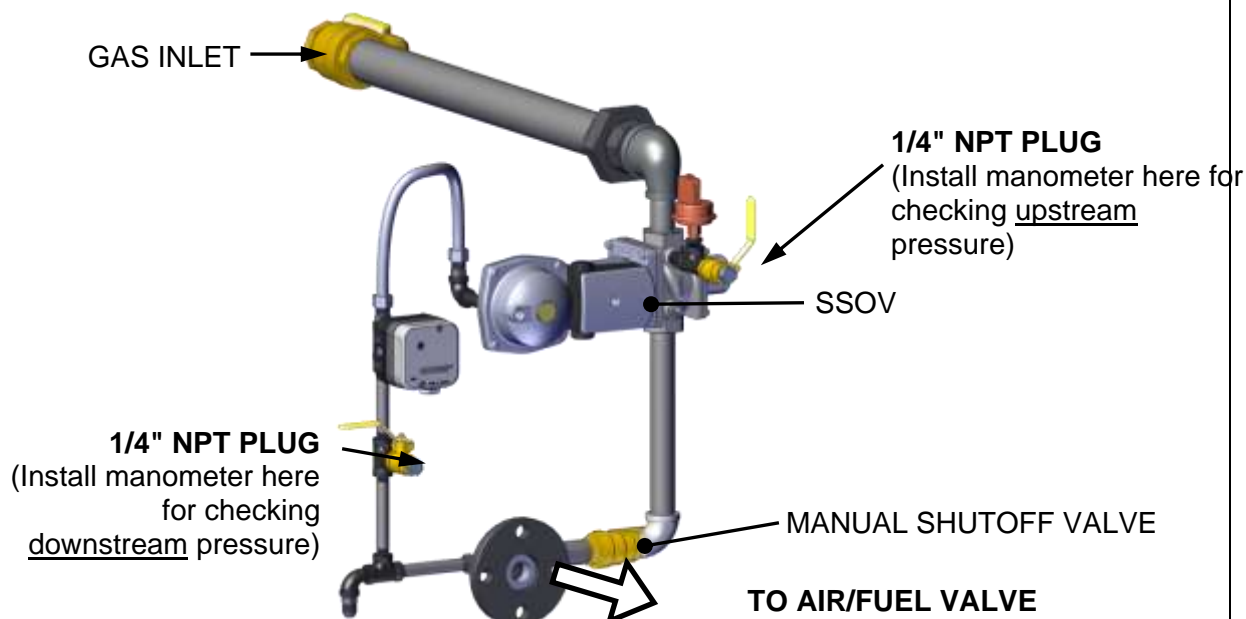

Figure 4.2.2: 1/4 Inch Gas Plug Location (INN 600N – INN 1060N Gas Train Shown)
3. Remove the 1/4-inch NPT pipe plug from the leak detection ball valve on the upstream side of the Safety Shut Off Valve (SSOV) (see Figure 4.2.2).